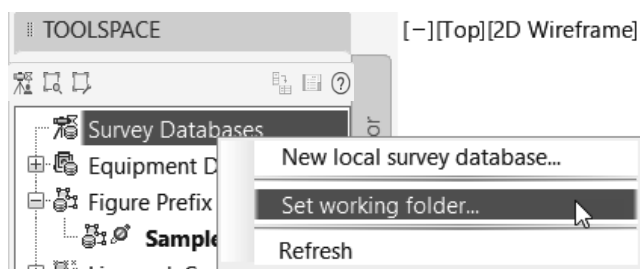

Figure 2–70
2. On the *Survey* tab, right-click on **Survey Databases** and select **Set working folder**, as shown in Figure 2–70.